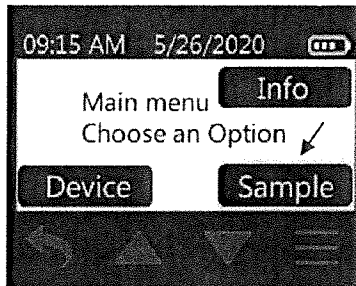

Figure 36. Sample Button
- Press the main menu button (three Horizontal lines below the display) to get to the Main Menu and touch Sample (Figure 36).